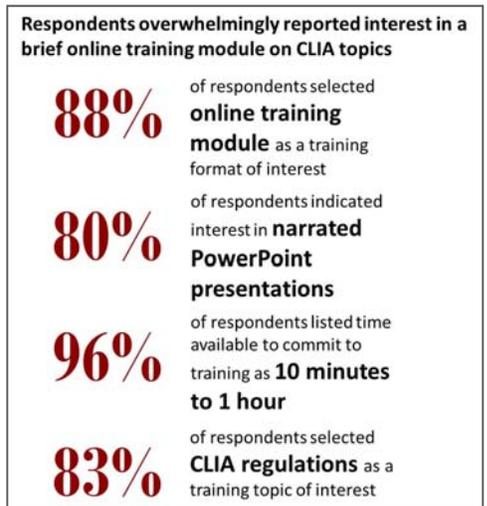

Figure 1. Summary of responses from the 2014 Sentinel Laboratory Needs Assessment.
Figure 1. Polyclonal rabbit anti-*Y. pestis* F1 antigen antibody labeled with fluorescein isothiocyanate (FITC) reacts with the F1 antigen on the cell surface of *Yersinia pestis*. This smear was made from a *Yersinia pestis* positive control isolate.
In 2014, the Idaho Bureau of Laboratories (IBL) conducted a survey to assess the needs of the Idaho Sentinel Laboratory Network. This assessment indicated that an online training regarding Clinical Laboratory Improvement Amendments (CLIA) regulations, proficiency testing (PT) requirements, and laboratory quality improvement were of interest to clinical labs (Figure 1). To respond to this need, IBL developed an online training module focused on CLIA and state PT requirements. It provides an on-demand resource to learn about the PT requirements needed to maintain a valid accreditation program in Idaho and offers guidance for clinical laboratory staff to troubleshoot failed PT events and develop corrective action plans.
To evaluate these concerns, the Idaho Bureau of Laboratories (IBL) has been monitoring performance data from automated systems use on Sentinel Laboratory Preparedness Surveys. This is done by comparing the isolate sent by IBL with the agent identified by sentinel laboratory’s automated systems. Figure 1 shows results from selected 2014 and 2015 surveys. The graphic displays the performance of several different automated systems and their ability to correctly identify biological threat (BT) and fastidious bacterial species. Overall, the accuracy rate for these species was about 40%. When testing the BT agents *Brucella abortus*, *Francisella tularensis*, and *Yersinia pestis*, automated systems correctly identified the sample only twice (11%). Misidentification of BT agents can lead to serious treatment complications for patients (see Case Studies sidebar).
Figure 1. Automated systems are often inconsistent in the identification of select agents including *Brucella* spp., *Francisella tularensis*, and *Yersinia pestis*. \*Biological threat agent